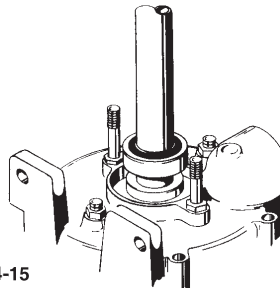

Figure 4-15
25. Solidly supporting the bottom end of the shaft, drive or press a ball bearing (#24) onto the shaft until it rests firmly against the shoulder on the shaft.(refer to figure 4-15) A sleeve properly sized to contact only the inner bearing race will be helpful for this operation.